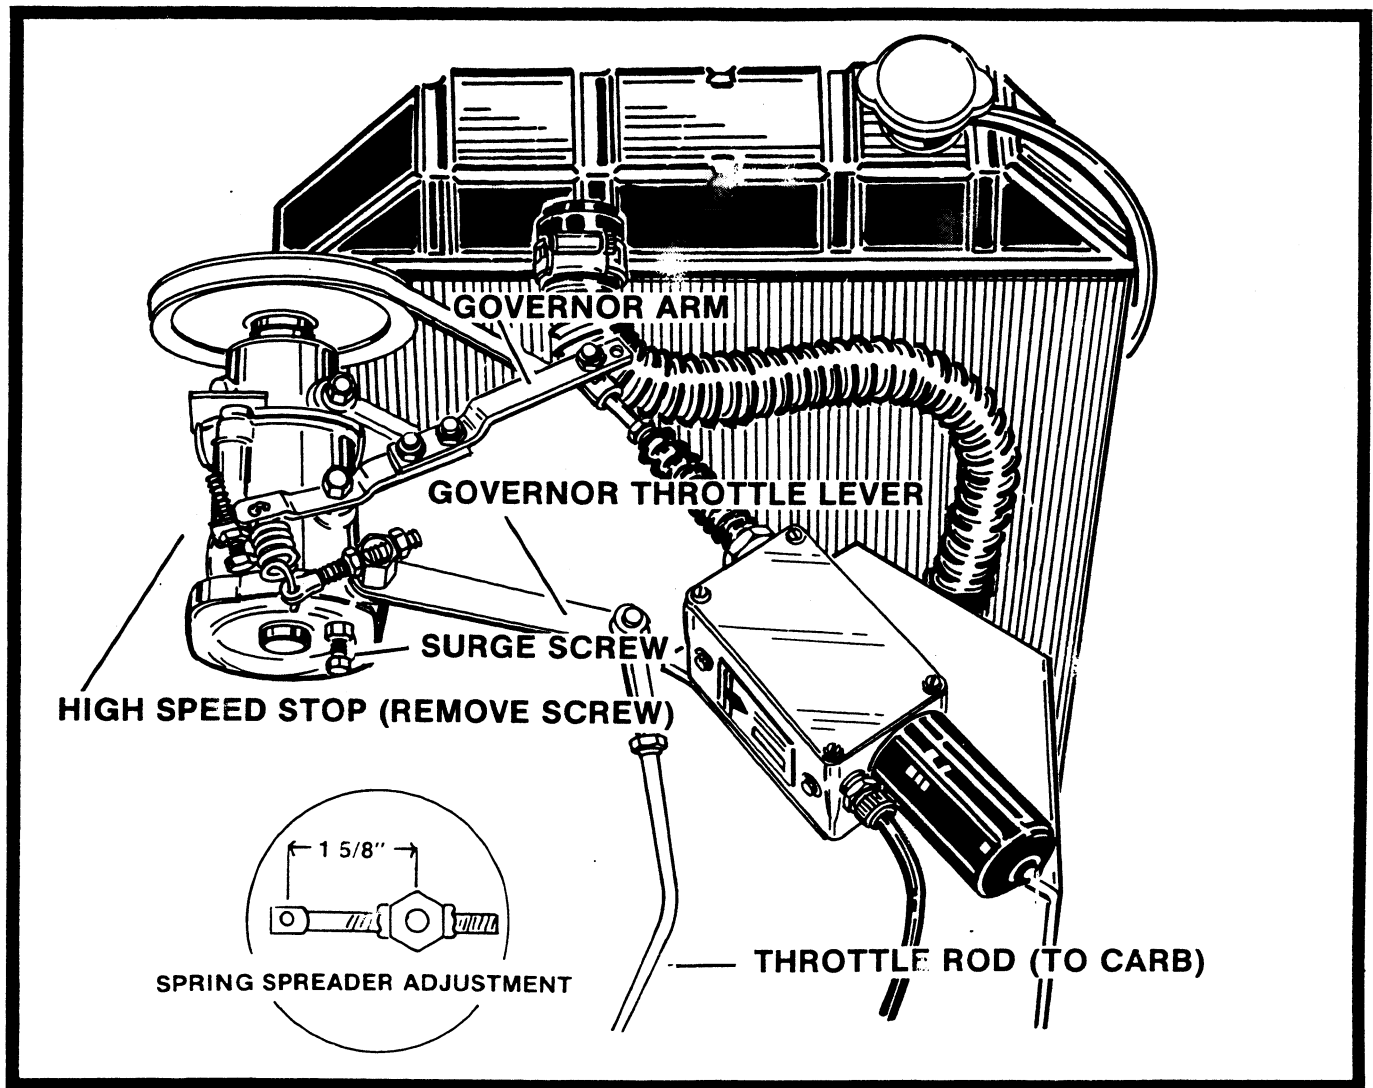

Figure 2-5. Governor Adjustment, Adeco, LSG423.
a. Checks. (Refer to Figure 2-5)
- (1). Check governor drive belt tension. A belt in operation for 10 minutes or more should be set at 100 ft. lbs. (13.82 Kgm).
- (2). Check length of spring spreader adjustment from centerline of eye to centerline of eye. Dimension should be 1 5/8 inch.
- (3). Manually move the governor throttle lever to maximum high speed position. (The Adeco actuator must be disconnected to accomplish this.) The carburetor throttle lever should have 1/32 to 1/16 inch travel remaining to stop. The governor high speed stop screw was removed at the factory.
(b). Adjustments. (Refer to Figure 2-5 and 2-6)